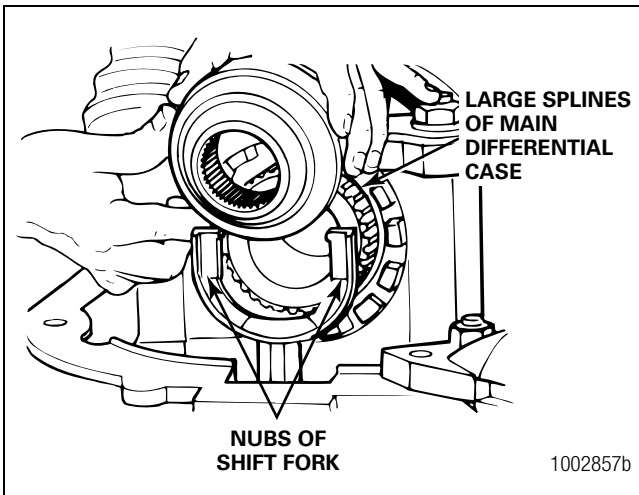

Figure 6.22
9. Position the shift collar over the fork. The large splines of the collar must face toward the main differential. Use a rubber mallet to tap the shift collar through the nubs of the shift fork. Figure 6.22.